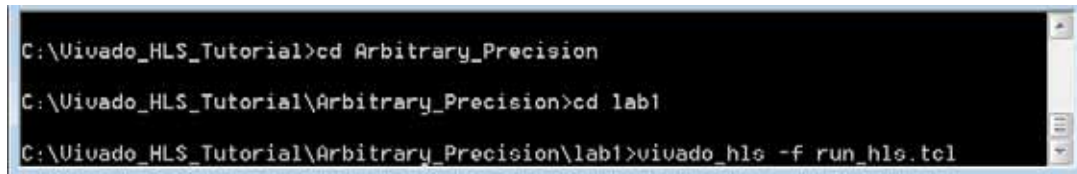

Figure 5-2: Setup the Tutorial Project
2. In the command prompt window (Figure 5-2), change the directory to the Arbitrary Precision tutorial, lab1.
3. Execute the Tcl script to setup the Vivado HLS project, using the command as shown in Figure 5-2: